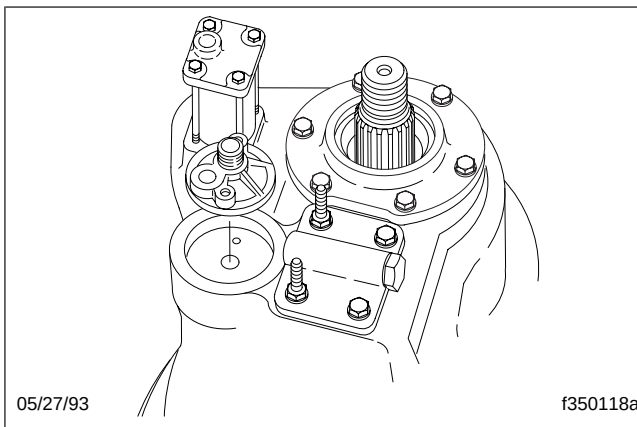

Fig. 10, Axle Oil Filter Adapter Removal and Installation
- 3.3 Remove the capscrews, washers, and oil filter adapter from the gear cover; then inspect the threads of the filter mounting tube and adapter casting. See **Fig. 10**. If the threads are stripped or the casting is cracked, replace the damaged component.